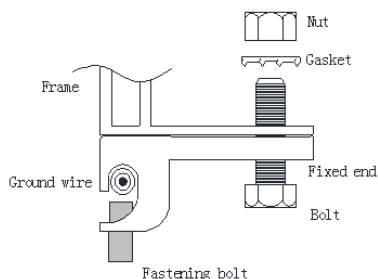

Figure 10: Grounding the aluminum frame with a copper wire
- Use the marked 5.5 mm grounding holes to ground the anodized aluminum frame. Use an M5 nut, an M5 gasket, and an M5 bolt, fastening bolt and a ground wire. All nuts, bolts, and gasket should be made of stainless steel. See *Figure 10*.